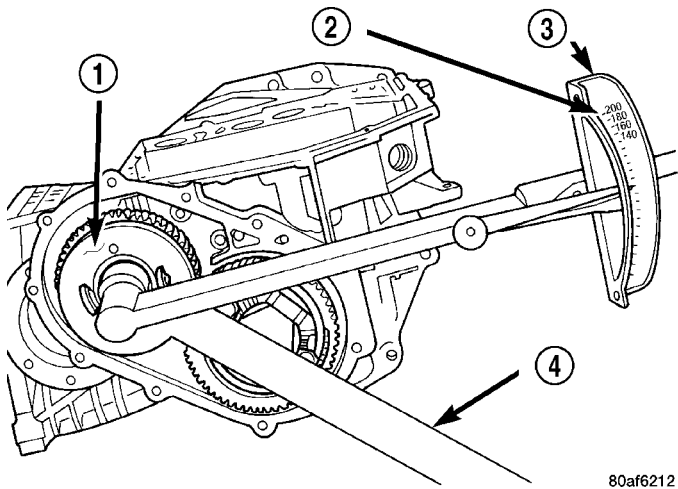

Fig. 120 Tighten Transfer Gear Nut to 271 N·m (200 ft. lbs.)
(33) Install the new retaining nut and washer.
(34) Using Tool 6259, torque transfer gear retain-nut to 271 N·m (200 ft. lbs.) (Fig. 120).